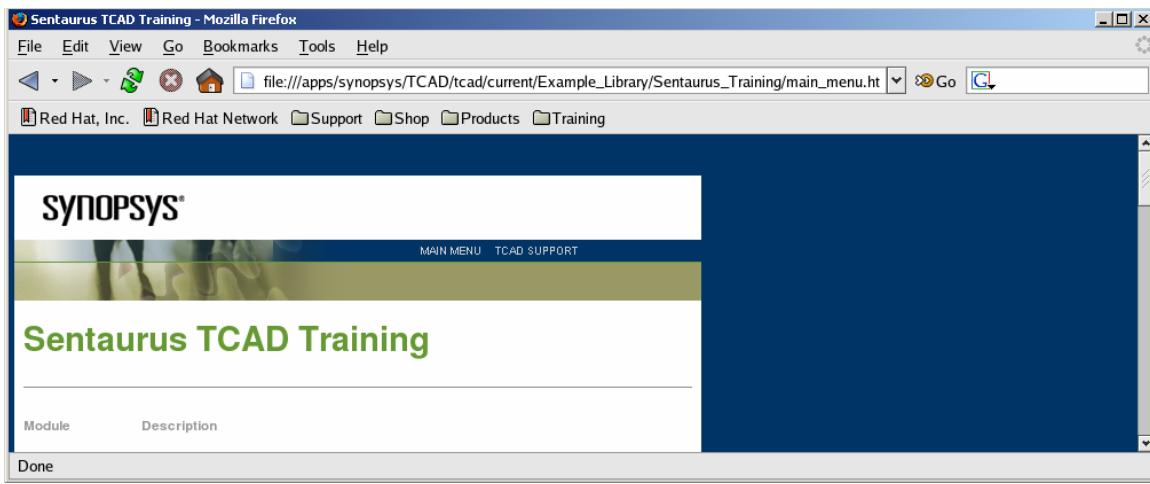

Figure 5: Main Menu of Sentaurus Training.
8. The web browser should look like Figure 5. Bookmark the page by going to Bookmarks.. Book mark this page (Figure 6).